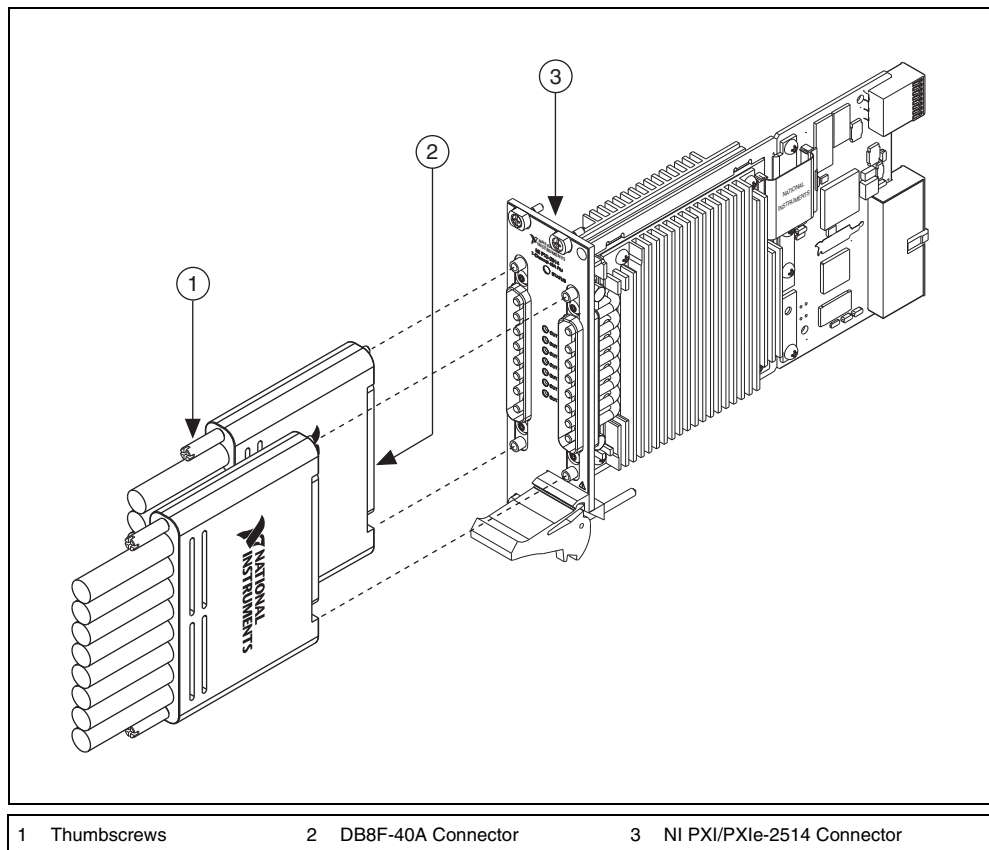
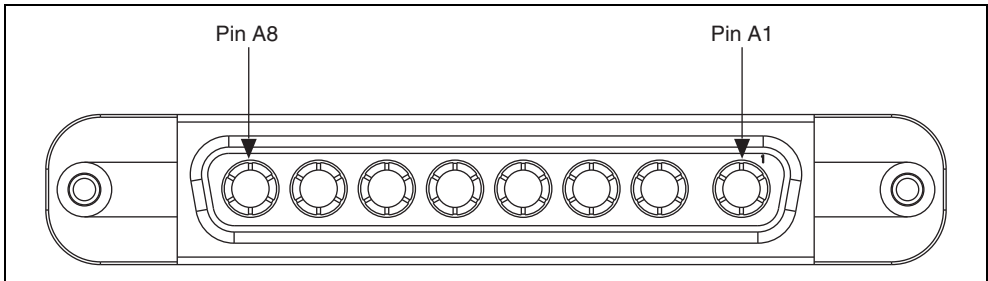

Figure 1. Connecting the Cable to the NI PXI/PXIe-2514
Figure 4. DB8F Mating Connector
Complete the following steps to connect the cable to the switch module and your application. Refer to Figures 1 through 3 for illustrations of the cable, and to Figure 4 for an illustration of the connector.
1. Connect the DB8F connector to one of the two DSUB front connectors on the switch module as shown in Figure 1.
The cable connects an 8-pin female DSUB connector (DB8F connector) to a second DB8F connector or eight unterminated wires. The DB8F connector provides connection to the switch module. The second DB8F connector and unterminated cables provide connection to your application. Figure 4 shows the pinout for the DB8F connector.